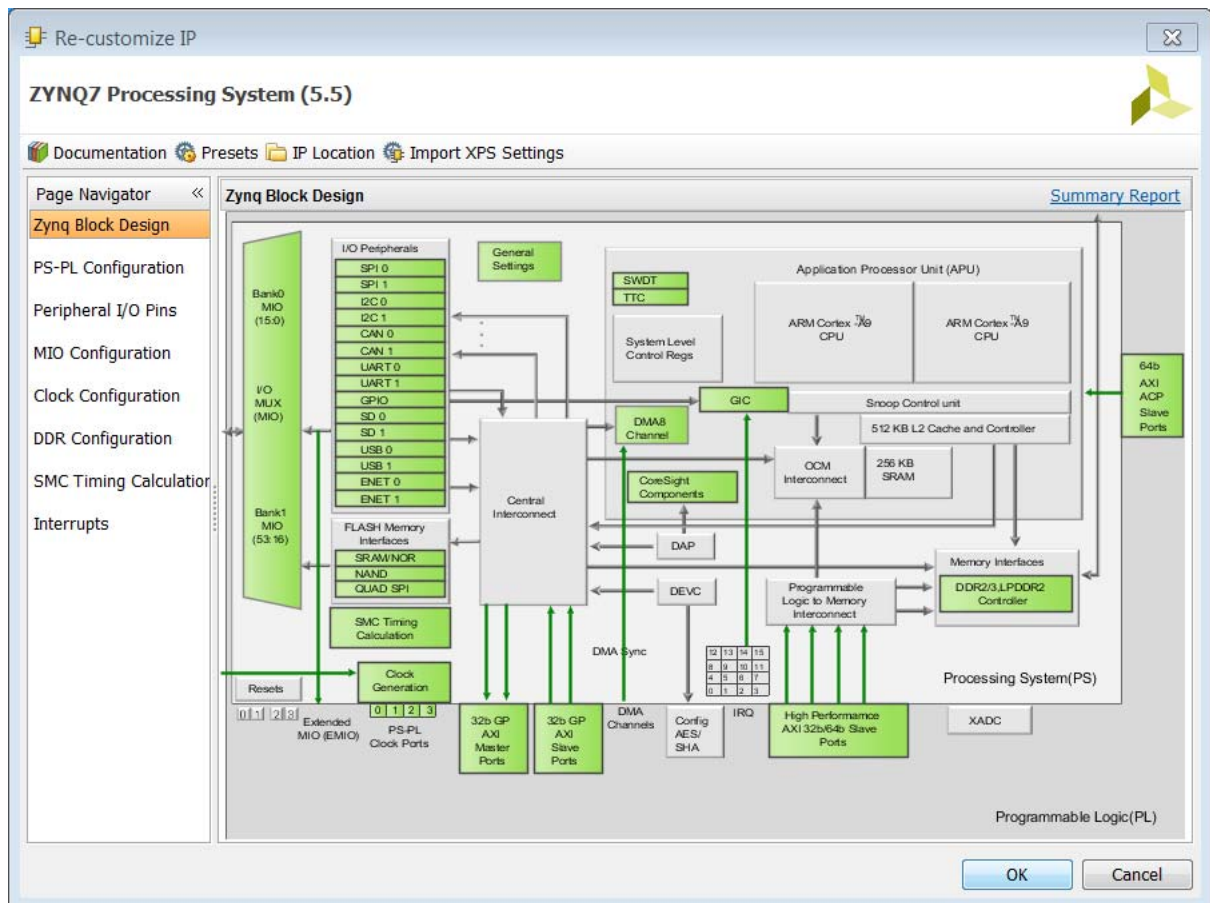

Figure 2-6: ZYNQ7 Processing System Configuration Dialog Box
- Double-click the processing system graphic to invoke the **Re-customize IP** process, which displays the Re-customize IP for the ZYNQ7 Processing System dialog box as shown in Figure 2-6.
Review the contents of the block design. The green colored blocks in the ZYNQ7 Processing System are configurable items. You can click a green block to open the coordinating configuration options. Alternatively, you can select the options from the Page Navigator on the left, as shown in Figure 2-6, page 11.